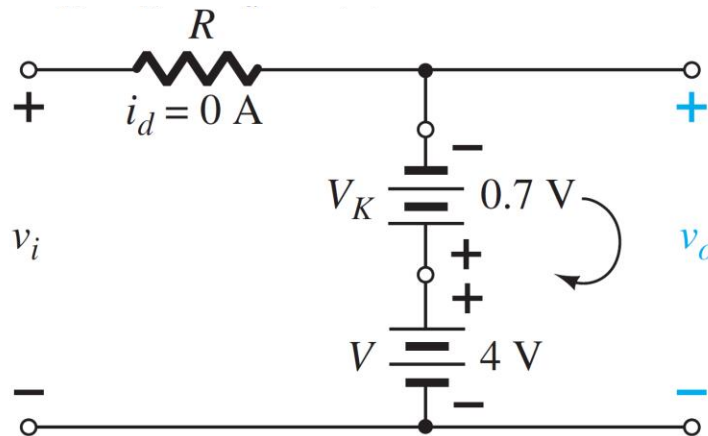

Figure 5
Step 3: Find the effect of the bias, to understand the effect of the bias, redraw the circuit while the diode in short circuit as shown in Figure 5.